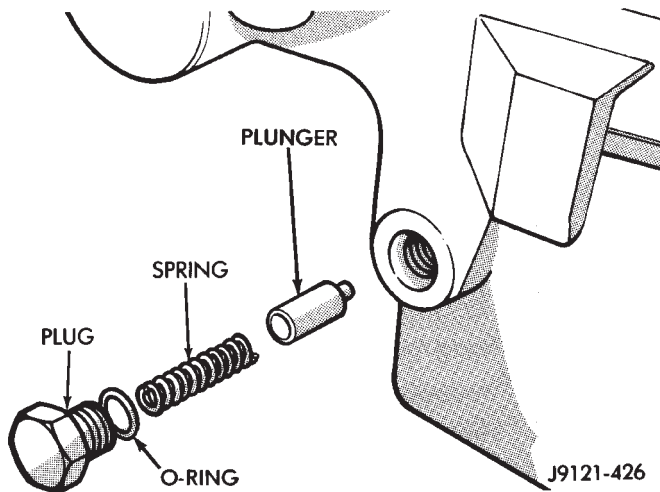

Fig. 21 Detent Component Removal
(33) Remove shift detent plunger, spring and plug (Fig. 21). Remove O-ring from plug after removal.